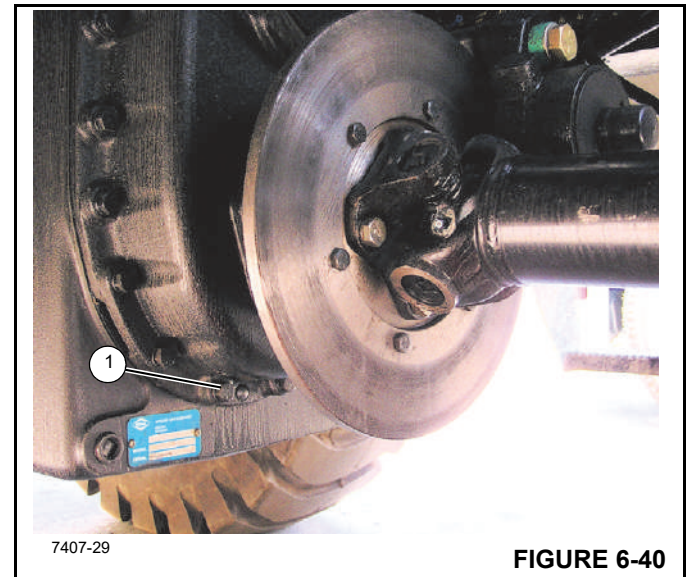

FIGURE 6-40
3. Place suitable container under the transmission drain plug (1, Figure 6-40).
4. Remove the plug (1, Figure 6-40). Drain the transmission into the container. Re-install the drain plug.